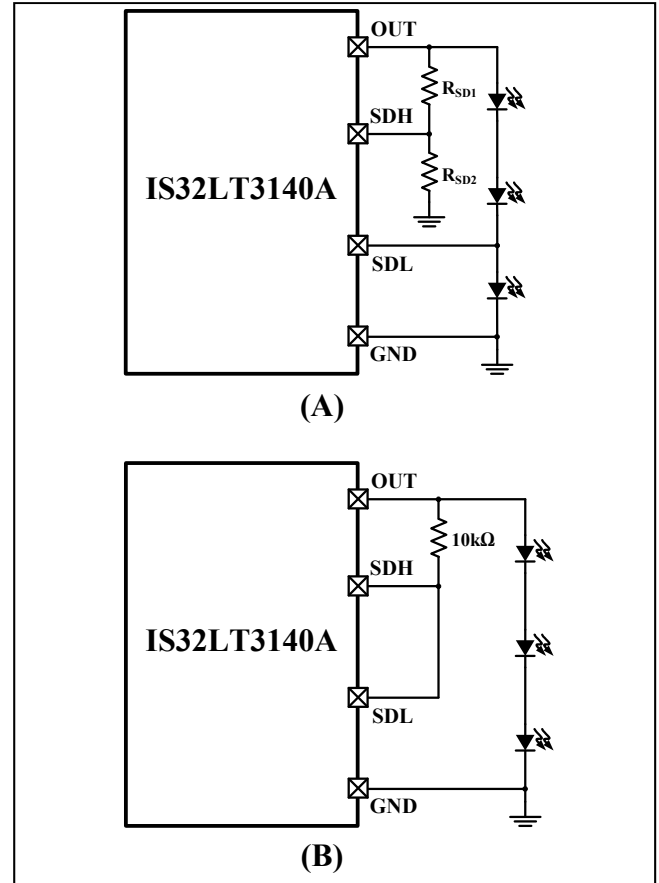

Figure 53 SDH and SDL Connection
In the application, the SDL pin is connected to the anode of the bottom LED and the SDH is connected to OUT pin via a proper resistor divider; Figure 53 (A). The device uses the input voltage of the SDL pin, the forward voltage of the bottom LED, as the reference voltage of the CMP1 to monitor the SDH pin voltage. In case of any upper LED is shorted, the SDH pin voltage V_{SDH} will drop down. If it drops below V_{SDH} but greater than V_{SSH_TH} and persists for longer than the deglitch time t_{FD_SS} , the single LED short protection will be triggered and the FAULTB pin will go low to report the fault condition. The resistor divider ratio can be calculated by:
When the single LED short protection is unused, SDH and SDL pins must be connected together to OUT pin via a 10kΩ resistor. As Figure 53 (B).